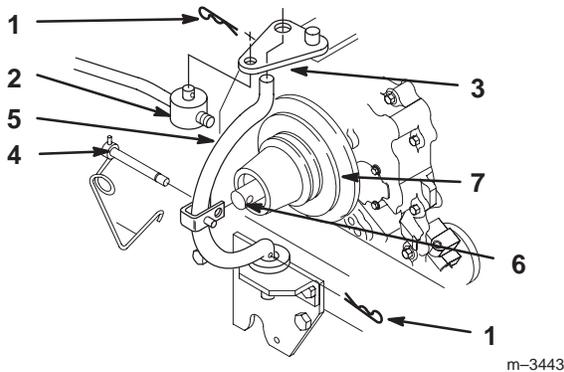

Figure 34
- Unlatch and remove locking clevis pin that secures yoke assembly to clutch shaft. Pivot yoke out and forward to remove from clutch shaft and engagement plate (Fig. 34).
- Replace belt in inside pulley groove (Fig. 34).
- Assemble yoke and engagement plate and attach locking clevis pin, trunnion and hairpin coters to secure (Fig. 34).